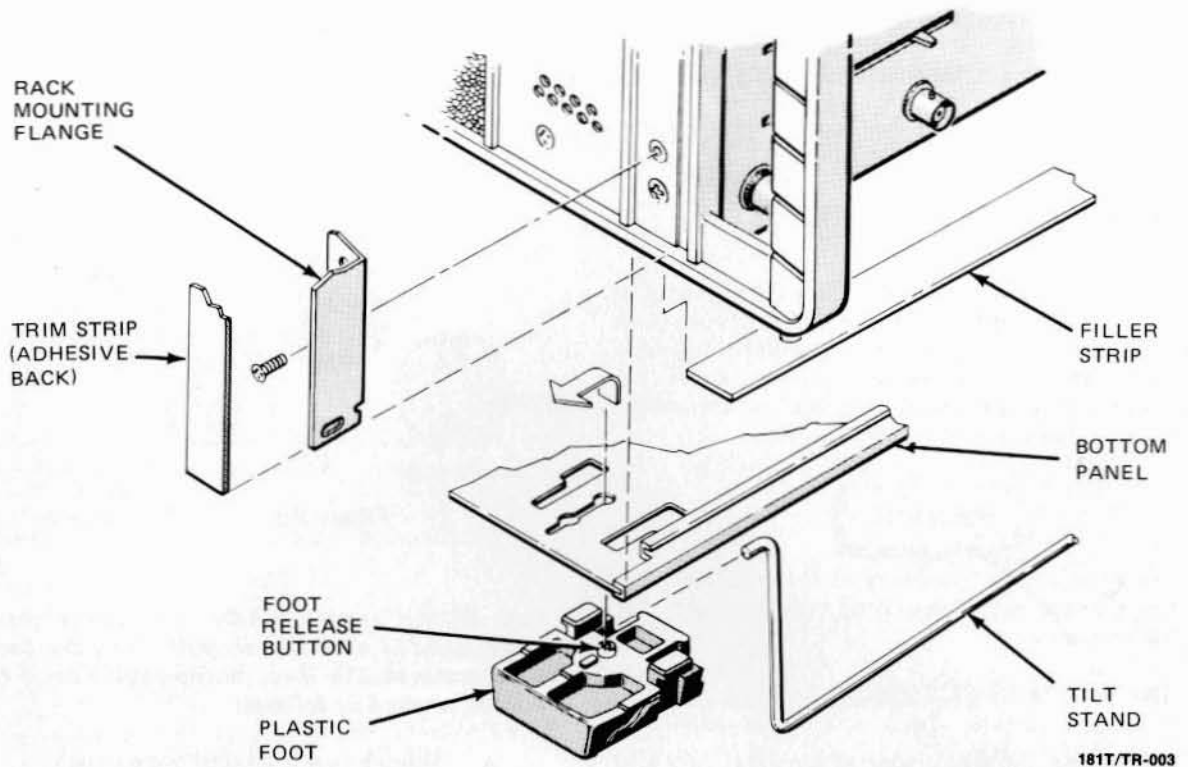

Figure 2-2. Bench/Rack-Mount Conversion
**2-10. RACK MOUNTING.** A kit for converting the Model 181TR to a rack mount is supplied with each instrument. Instructions for making the conversion are given below. Refer to figure 2-2 for parts identification.